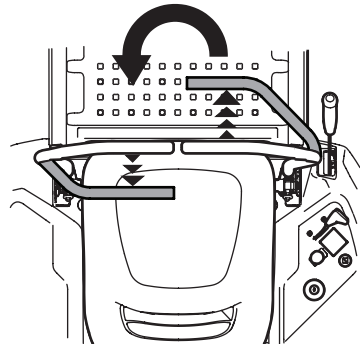

Figure 35
3. To turn counter-clockwise, move the lapbar right drive control lever forward while simultaneously moving the left lapbar drive control lever rearward (Figure 35).